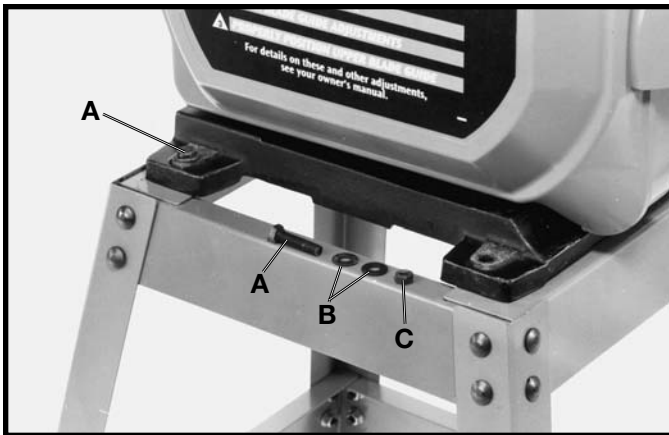

Fig. 5
2. Fasten the band saw to the stand using the four M8 x 35mm hex head bolts (A) Fig. 5, eight M8 flat washers (B) and four M8 hex nuts (C), supplied. Place an M8 flat washer on the hex head bolt and insert bolt through hole on the band saw feet and hole in the stand. Place a flat washer on the hex head bolt that has been inserted through the saw and stand and secure with M8 hex nut.